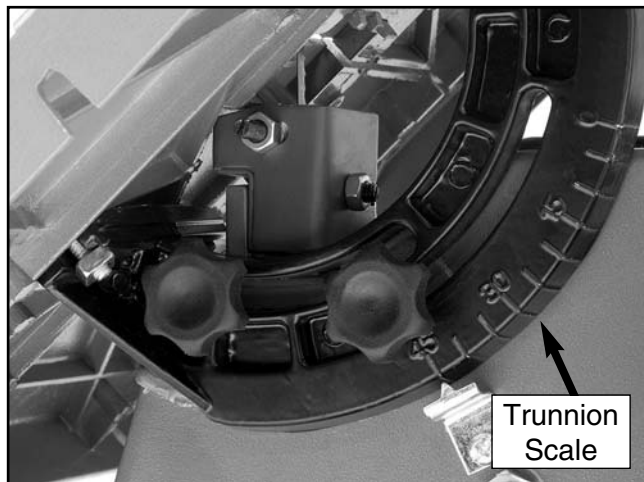

Figure 29 Table adjusted to 45°.
3. Use the trunnion scale to adjust the table to the desired angle (**Figure 29**).